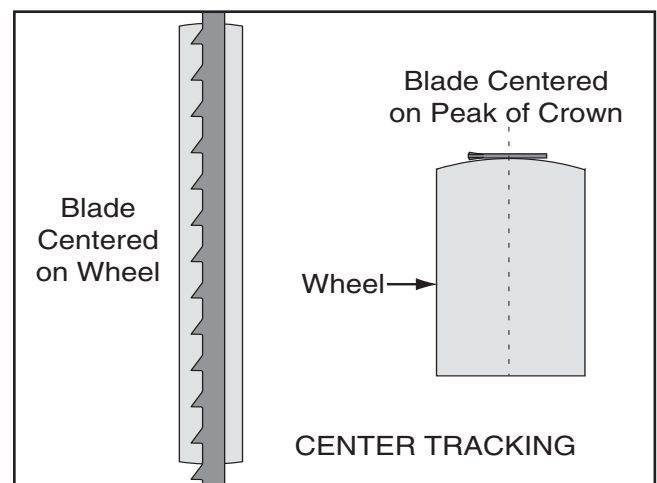

Figure 13. Center tracking profiles.
5. Spin the upper wheel by hand at least three times and watch how the blade rides on the crown of the wheel. Refer to **Figure 13** for an illustration of this concept.